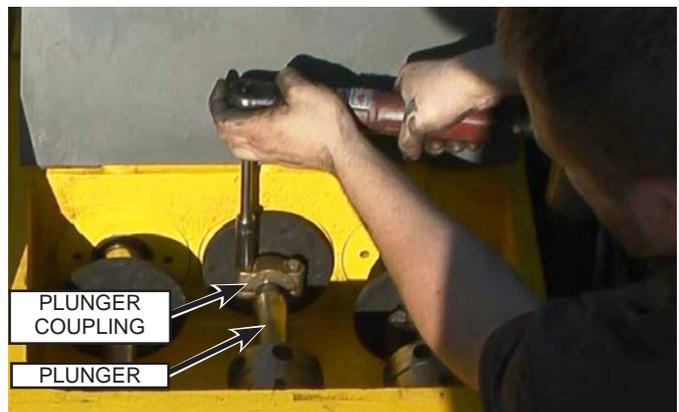

Fig. 49: Plunger Coupling Removal
11. Remove the two bolts that secure each plunger coupling (Fig. 49) to the plungers and remove the three couplings. The coupling halves are matched and must be kept together.